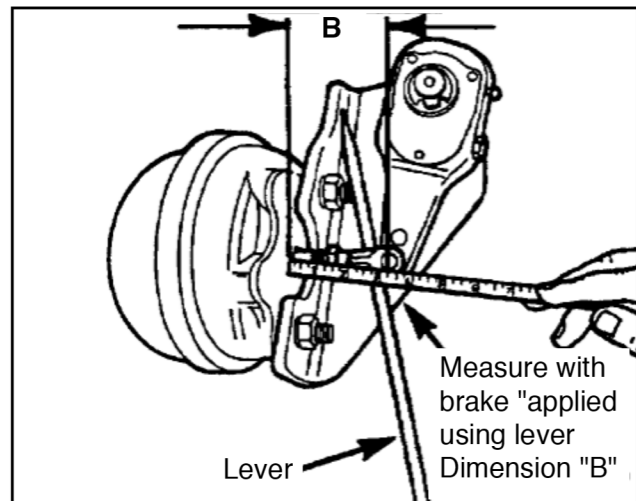

Figure 6
- With a lever, pry the brake adjuster arm until the brake shoes contact the drum and measure the brake adjuster movement (see **Fig. 6**).